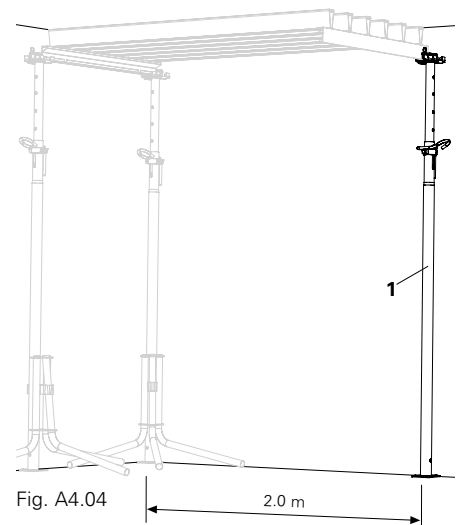

Fig. A4.04
4. Place the third prop with prop head (1) at the end of the element in an inclined position from the inside and align outwards, distance 2.0 m (Fig. A4.04)